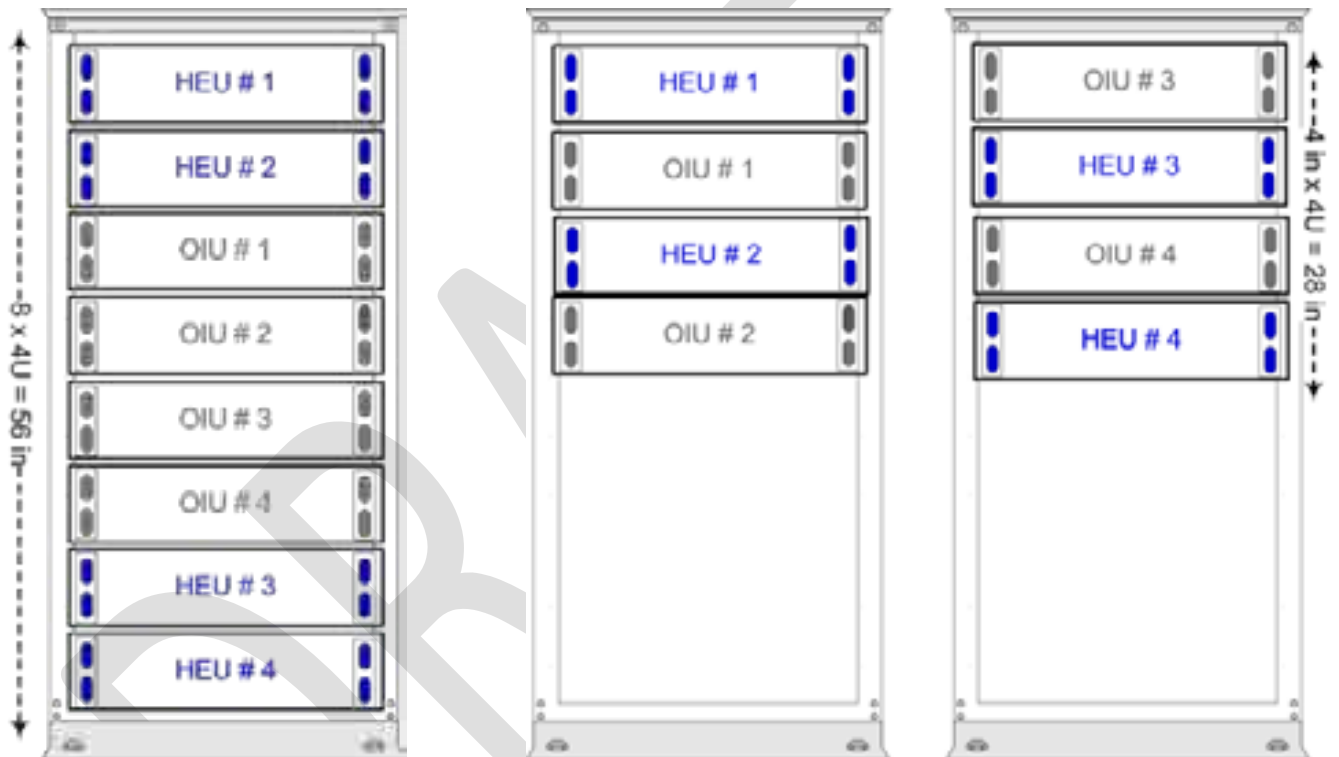

Figure 5-1. 4x4 Installation Diagram – Dedicated      Figure 5-2. 4x4 Installation Diagram – Shared
1. Determine the location of the HEU in the rack while considering additional headend units and the lengths of the available ERFC cables. Figure 5-1 and Figure 5-2 illustrate the optimal rack installations for a maximum 4x4 HEU-OIU configuration in shared and dedicated equipment scenarios.